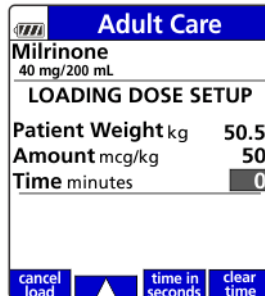

Figure 62. Loading Dose Setup Screen
- If the **yes** soft key is pressed, the Loading Dose Setup screen is displayed. See Figure 62.
The following Drug Library configuration will result in the appearance of a **time in seconds** soft key. See Figure 62.